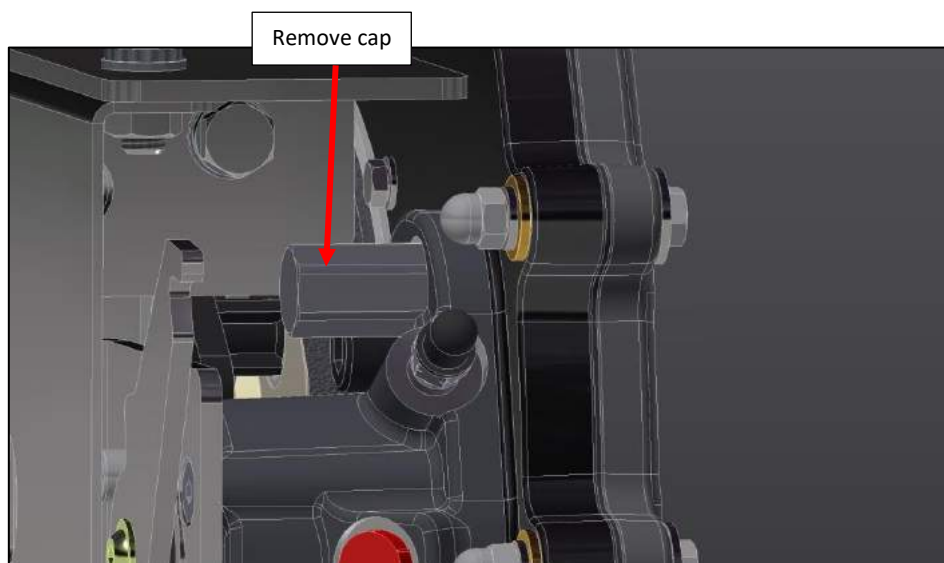

Figure 56
2. Remove the protective cap from the pad wear indicator assembly (Figure 56).